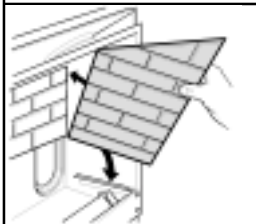

Figure 7
3. Locate the side walls in the channels at the sides of the firebox. See figure 7.